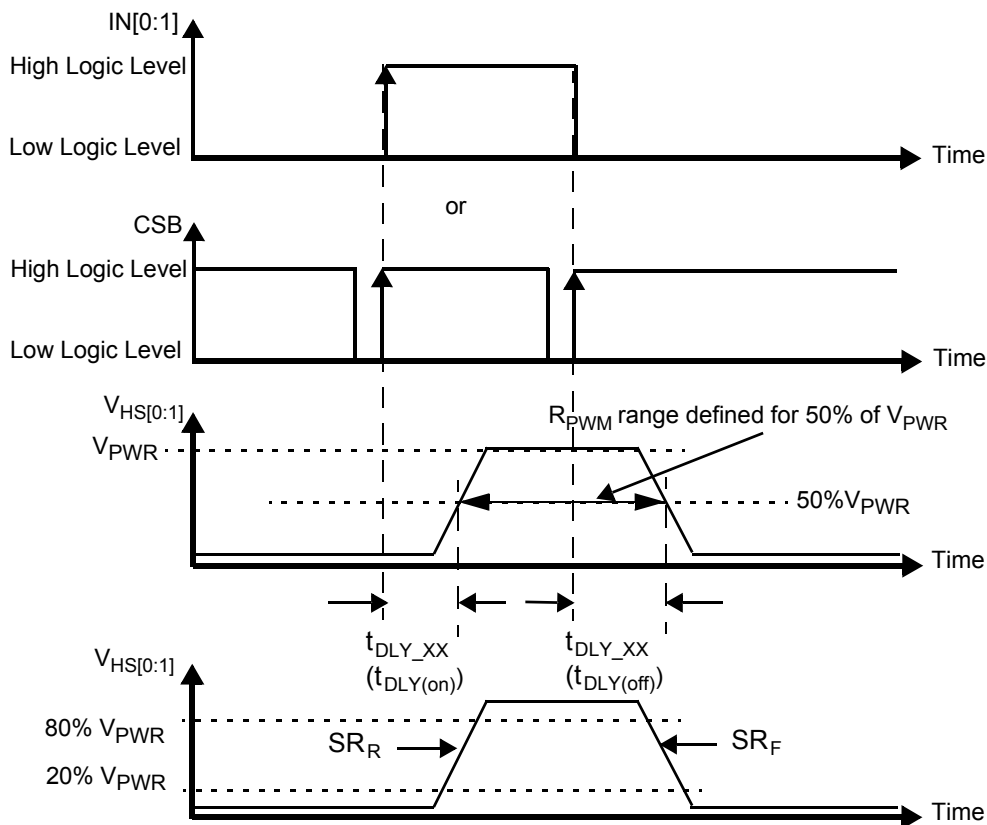
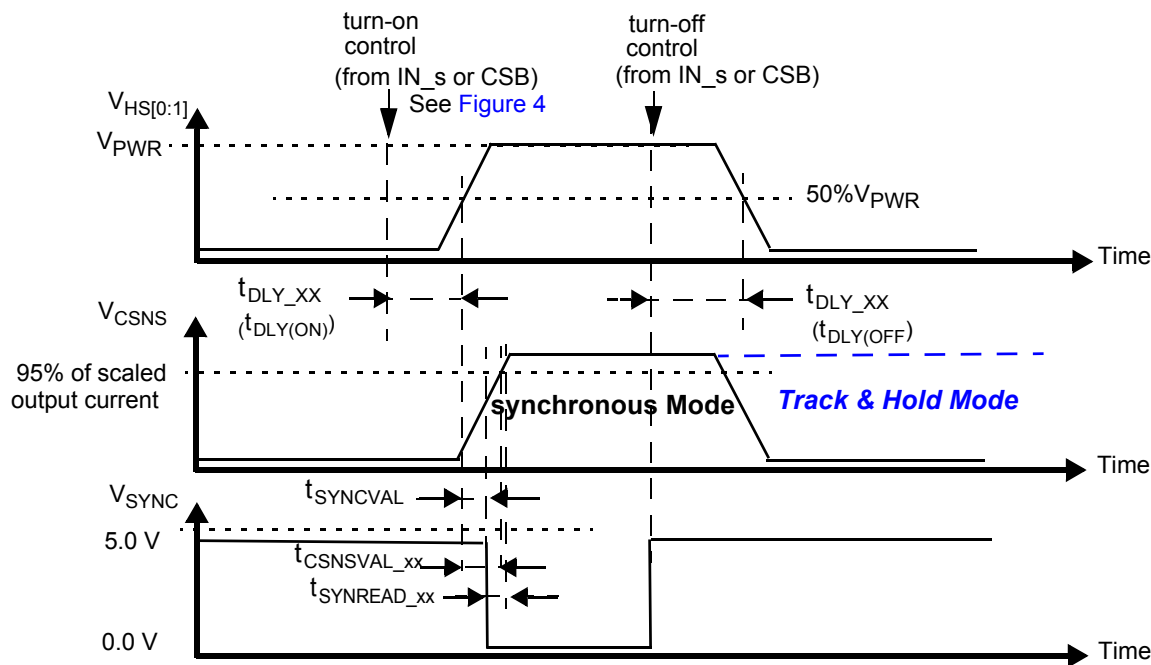

Figure 4. Output Voltage Slew Rate and Delay
Figure 9. Synchronous & Track-and-Hold Current Sensing Modes: Associated Delay & Settling Times
27. Rising and Falling edge slew rates specified for a 20% to 80% voltage variation on a $10.0\ \Omega$ resistive load (see Figure 4).
29. Time required to switch off the channel after detection of overtemperature (OT), overcurrent (OC), SC or UV error (time measured between start of the negative edge on the FSB pin and the falling edge on the output voltage until $V(\text{HS}[0:1]) = 50\%$ of V_{PWR}).
30. Settling time ($= t_{CSNSVAL_XX}$), SYNC output signal delay ($= t_{SYNCVAL_XX}$) and Read-out delay ($= t_{SYNREAD_XX}$) are defined for a stepped load current ($100\text{ mA} < I(\text{LOAD}) < I_{OCLX A}$ FOR $\text{CSNS_RATIO_S} = 1$, AND $300\text{ mA} < I(\text{LOAD}) < I_{OCLX A_0}$ FOR $\text{CSNS_RATIO_S} = 0$). (see Figure 9 and Output Current Monitoring (CSNS)).
To synchronize current sensing with an external process, the SYNC signal can be connected to a digital input of an external MCU. SYNC is asserted logic low when the current sense signal is accurate and ready to be read. The current sense signal on the CSNS pin has the specified accuracy $t_{SYNCREAD_XX}$ seconds after the falling edge on the SYNC pin (Figure 9) and remains valid until a rising edge is generated. The rising edge that is generated by the SYNC pin at the turn-OFF instant (internal or external) may also be used to implement synchronization with the external MCU. Parameter $t_{SYNCSVAL_XX}$ is defined as the time between the instant at the middle of the output-voltage rising edge ($HS[0:1] = 50\%$ of V_{PWR}), and the instant at which the voltage on the SYNC-pin drops below 0.4 V (V_{SOL}). The SYNC pins of different devices can be connected together to save micro-controller input channels. However, in this configuration, the CSNS function of only one device should be active at a time. Otherwise, the MCU does not determine the origin of the SYNC signal. The SYNC pin is open drain and requires an external pull-up resistor to V_{DD} .